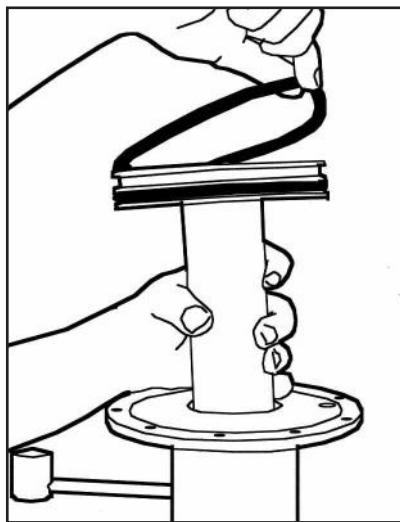

Figure 55
- For all pumps except the P1500W400, remove the piston plunger assembly and the two O-rings. For the 1500W400 pump, remove two U-cups instead of the O-rings in this step. (Fig.55)